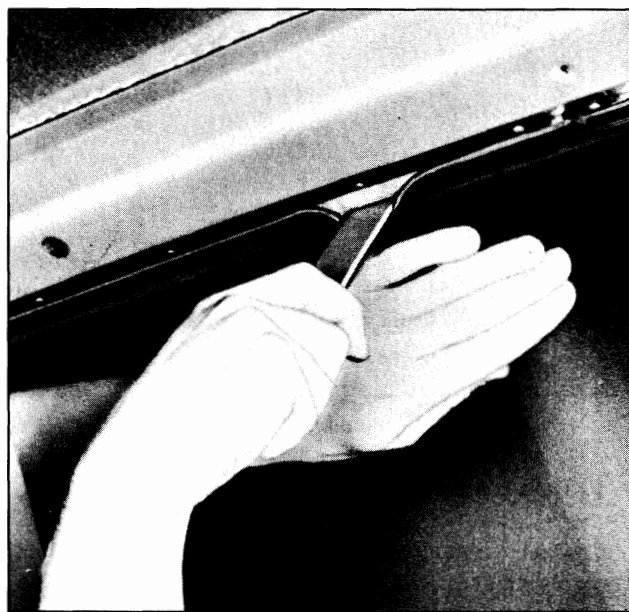

Fig. 2-6 Windshield Glass Removal
7. On inside of body loosen lip of rubber channel from pinchweld flange along top and sides of windshield as follows: with palm of hand, apply pressure to glass near edge (Fig. 2-6) at same time use a blunt putty knife or other suitable tool and carefully assist rubber channel over pinchweld flange.
6. On inside of body loosen lip of rubber channel from pinchweld flange along top and sides of windshield as follows: with palm of hand apply pressure to glass near edge (Fig. 2-6) at same time use a blunt putty knife or other suitable tool and carefully assist rubber channel over pinchweld flange across top and sides only.